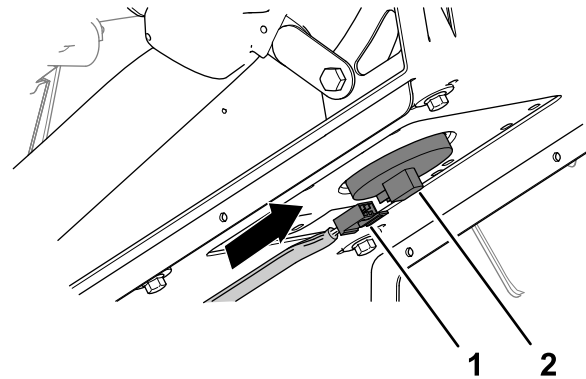

Figure 261
6. Plug the 2-socket connector of the machine wire harness into the connector for the seat switch until the connectors latch securely (Figure 261).